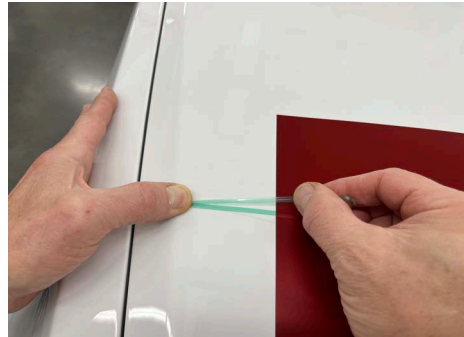

Figure 2.
3. Fold the start of the tape back over itself approximately 3 in. (7.6 cm). Press your thumb firmly on the folded edge, covering at least 0.5 in. (1.3 cm) of tape. (See Figure 2.)